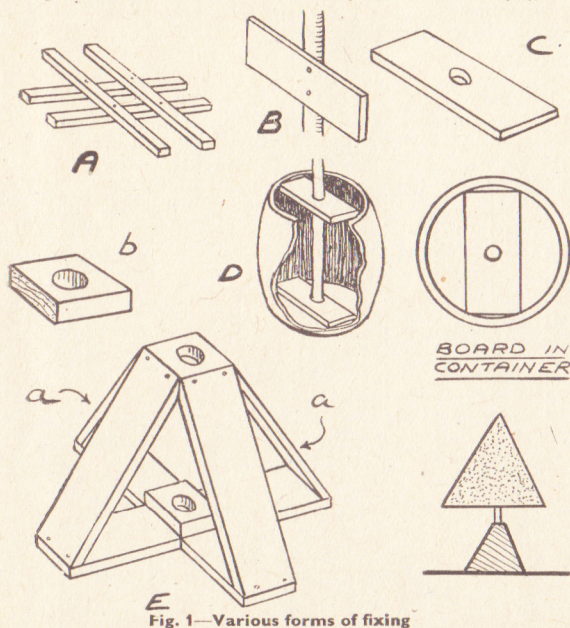

Fig. 1—Various forms of fixing
container to which the stem is attached or into which it slips. This extra support can be a frame as (A) Fig. 1 or a board on edge to which the stem is screwed (B), or again a flat board as (C) with a hole in the centre. In all cases the cross pieces must be jammed tightly in the top of the pot, barrel or box.
Should you wish to break right away from the conventional pot, barrel or box container and have your tree growing out of a cone-like bank, then the frame as shown in Fig. 1 (E) can readily be made, the size of the members depending on the size of the tree.